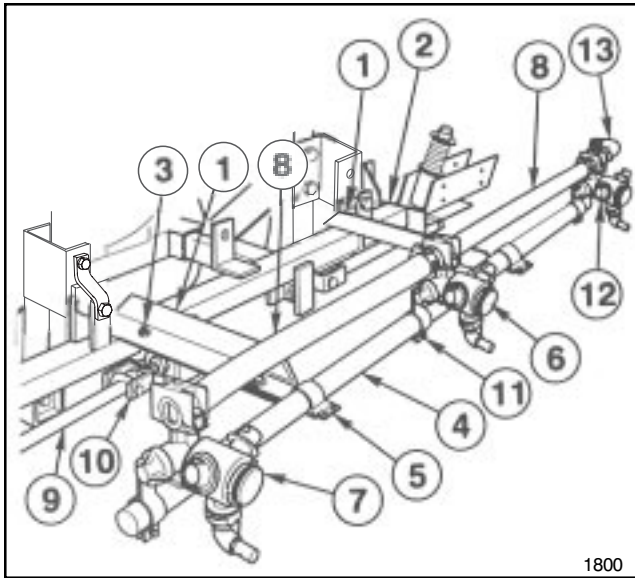

FIG. 6
9. Position the two (2) Center Boom angles on the Main Frame and secure them to the Main Frame Tube with two (2) square U-bolts, four (4) flat washers and hex nuts. (See FIG. 6, page 14)
10. Center and attach the Center Boom Pipe to the two (2) Center Boom Angle with two (2) clamps, (2) 3/8" x 1" cap screws, flat washers and lock nuts. Once mounted, the Center Boom Pipe should be approximately 20" from ground.
11. Loosely attach the Double Barb Turret Body with the Turret Body Clamp in the approximate center of the Center Boom Pipe. For the most uniform spray coverage, position all Nozzles level as shown in FIG. 6.
13. Place two (2) Hose Clamps on two (2) 3/4" x 19" Jumper Hoses and connect the two (2) "end" Turret Bodies to the Double Barb Turret Body. Space nozzles 20" apart and tighten fasteners securely. Apply thread sealer and install 90° 3/4" Hose Barb on the Threaded Turret Body. (See FIG. 6, page 14)
14. Attach the two (2) Strut Assemblies to the two (2) Adjustable Clevises found on each side of the Main Frame tube with (2) 1/2" x 2" clevis pins and two (2) 1/8" x 1" cotter pins. (See FIG. 6, page 14)
19. Adjust the Booms to a level position by adjusting the jam nuts on the adjustable clevis assemblies (See FIG. 6) to the desired position, then tighten the nuts against the Main Frame plate.